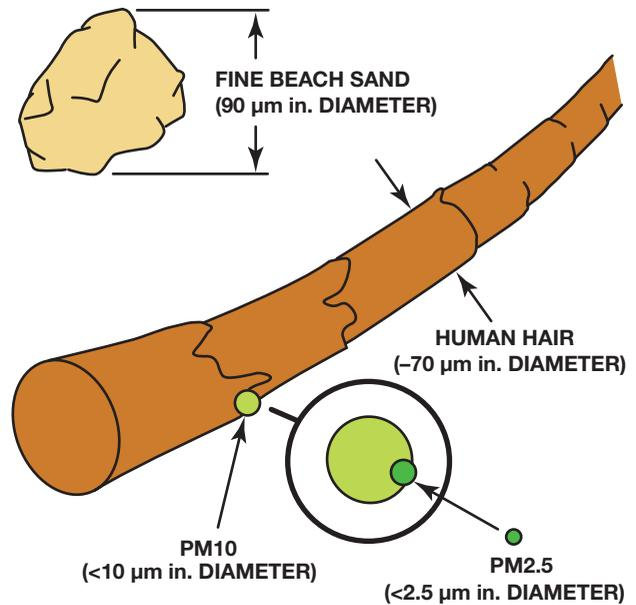

FIGURE 15-2 Relative size of particulate matter to a human hair.
- **Carbon monoxide (CO)** – Carbon monoxide (CO) is a result of partially burned diesel fuel. Carbon monoxide (CO) is unstable and will easily combine with any oxygen (O₂) to form stable carbon dioxide (CO₂). The fact that CO combines with oxygen (O₂) is the reason that CO is a poisonous gas (in the lungs, it combines with oxygen (O₂) to form CO₂ and deprives the brain of oxygen (O₂). CO levels of a properly operating engine should be less than 0.5%.
- **Oxides of nitrogen (NO_x)** – An oxide of nitrogen (NO) is a colorless, tasteless, and odorless gas when it leaves the engine, but as soon as it reaches the atmosphere and mixes with more oxygen, nitrogen oxides (NO₂) are formed. NO₂ is reddish-brown and has an acid and pungent smell. NO and NO₂ are grouped together and referred to as NO_x, where 'x' represents any number of oxygen (O₂) atoms. NO_x, the symbol used to represent all oxides of nitrogen (NO_x). The oxides of nitrogen are a result of high combustion temperatures and pressures.
- **Particulate matter (PM)** – Particulate matter (PM), also called **soot**, refers to tiny particles of solid or semisolid material suspended in the atmosphere. This includes particles between 0.1 and 50 microns in diameter. The heavier particles, larger than 50 microns, tend to settle out quickly due to gravity. Particulates are generally categorized as follows
- **PM2.5**. Refers to particulate matter of 2.5 microns or less (approximately 1/20 the diameter of a human hair), also called “fine” particles. In July 1997, the EPA approved a standard for PM2.5. ● SEE FIGURE 15-2.